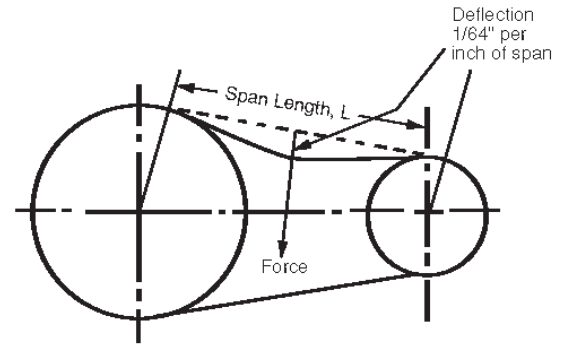

Figure 9. Belt Tensioning
1. Measure the span length “L” of your drive, refer to Figure 9.